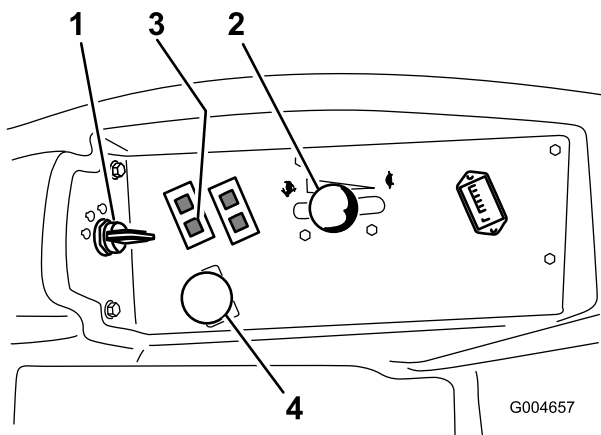

Figure 16
4. Move the PTO (power take off) switch to the off position (Figure 16).
5. Move the throttle lever midway between the Fast and Slow positions (Figure 16).